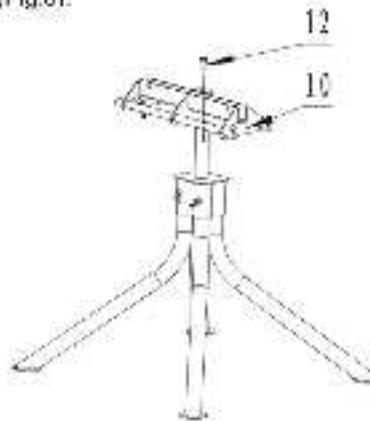

Fig.8
Locate the tilt/swivel unit (10) onto the stand connector and fit the bolt (12) to hand tight only. (Fig.8).